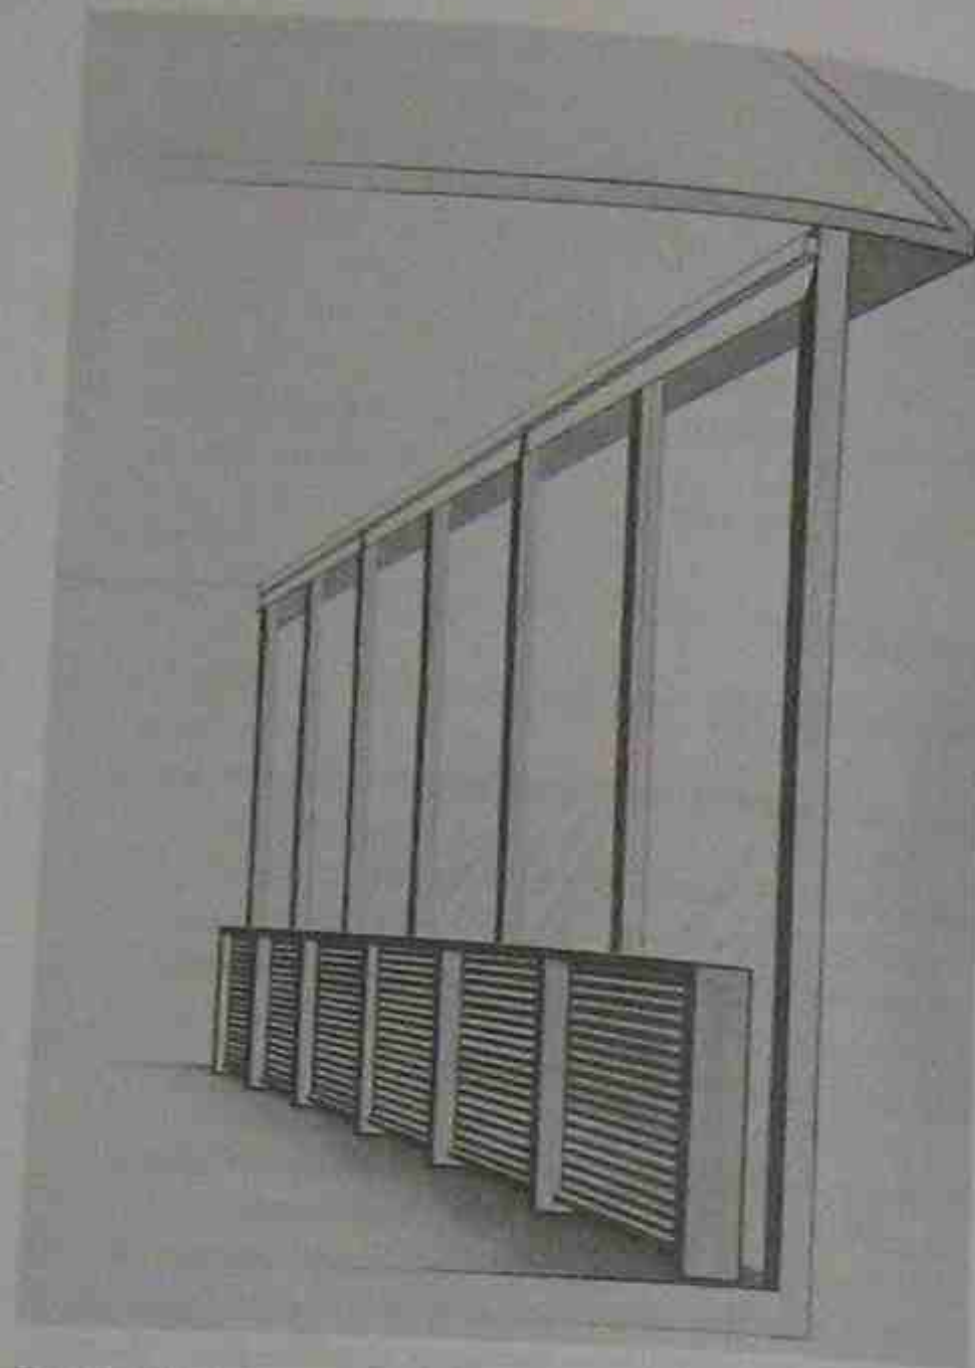

Figure 34-3. Latent-heat storage tubes may be placed in windows where heat is stored when the sun is shining. Courtesy Caloritherm Associates
- Place latent-heat storage tubes containing phase-change materials in windows where they can collect heat to be released at a later time, Figure 34-3.